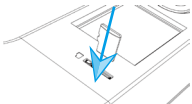

Figure 15
01. Put the G-code into the Micro SD and then insert it into the card slot of the MIS, as shown in Figure 15 below.